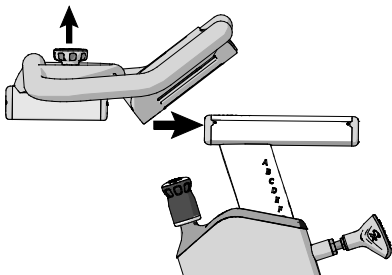

Figure 9
- 1. Slide the handlebar assembly onto the handlebar post (Figure 9) by loosening the fore/aft handlebar knob and pulling it up to align with the grooves in the handlebar post.